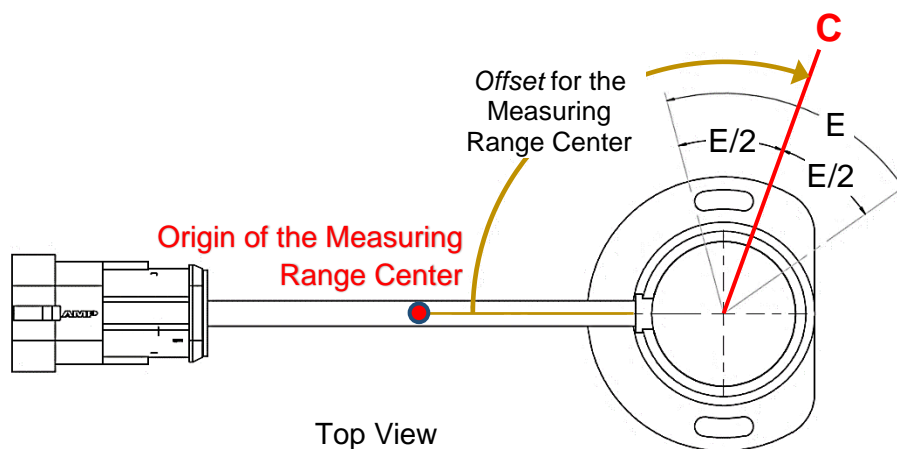
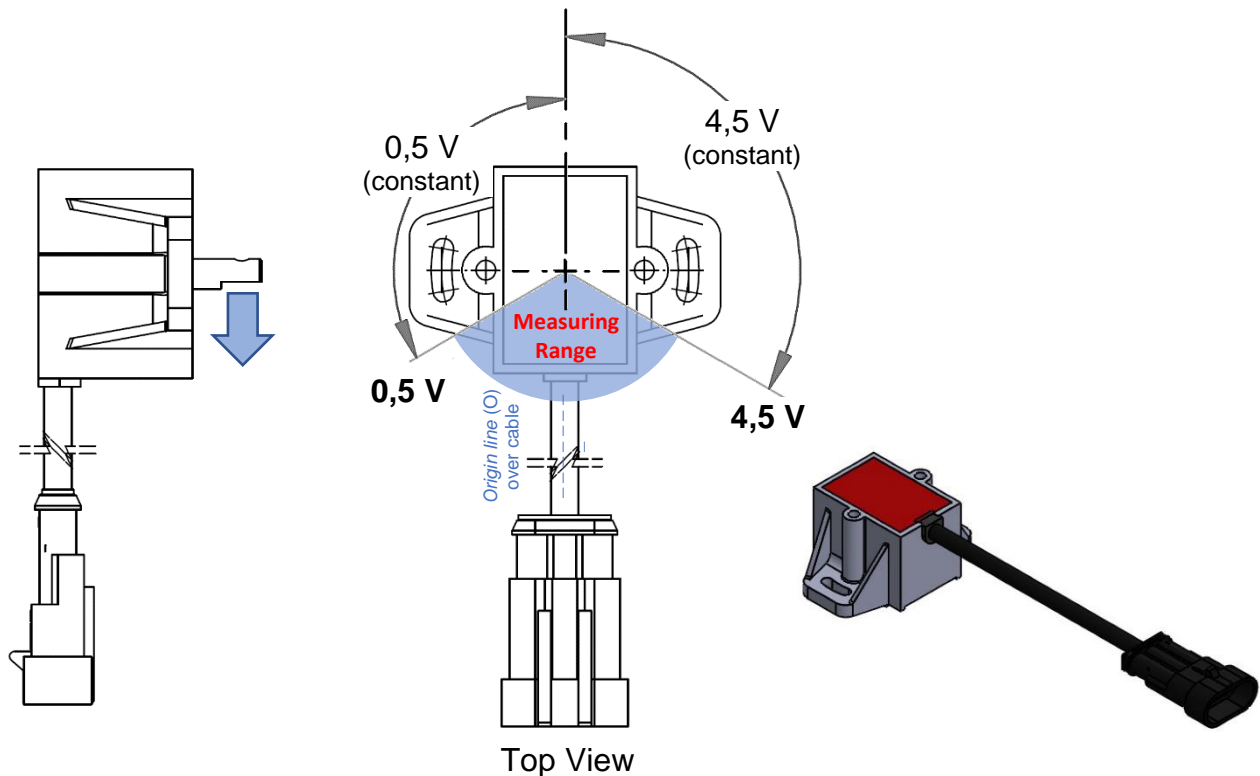

Figure 4 – Representation of Measuring range (E) Center (C)
Figure 7 – Representation of Measuring Range
The **MEASURING RANGE CENTER** is a reference for the positioning (*offset*) of the Measuring range (as definition in ‘Code 5’, below), which consists of 2 symmetric segments. The Measuring Range **CENTER** is measured from the origin (line over the sensor cable), clockwise, through the top view of the sensor (see Fig. 4).
The **MEASURING RANGE** is the linear output region of the sensor signal (useful signal zone). In it occurs the proportional variation of the signal in relation to the sensor shaft movement. The Measuring Range has 2 segments, both referenced from the Center of Measuring Range. In addition to the example given in Fig. 4 (circular housing), see the Measuring Range in the Fig. 7, below (this time for the rectangular housing).
- 120° Measuring Range: 2 segments of 60° having as axis of symmetry on the Measuring Range Center (acc. to Code 4; Fig. 4 and 6).